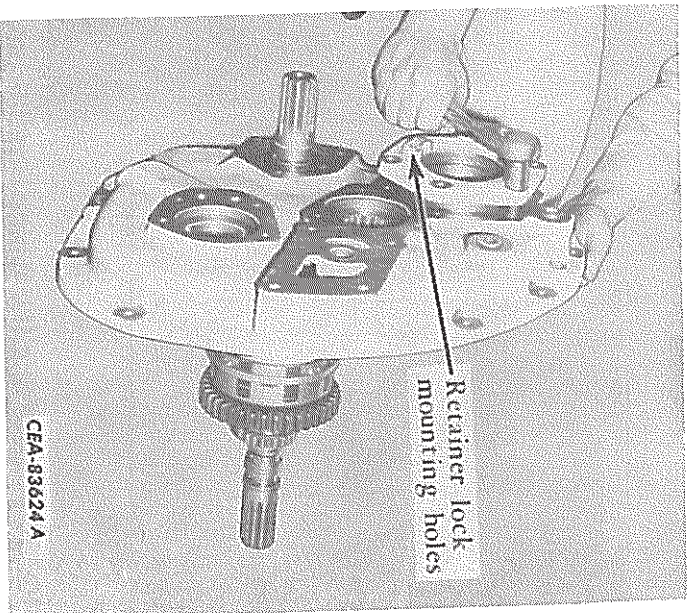

FIG. 78 — Installing the Pinion Shaft Front Bearing Cage
44. Place the "O" ring on the bevel pinion shaft front bearing cage. Install the bearing cage with the two tapped holes for the retainer lock at the bottom (Fig. 78).